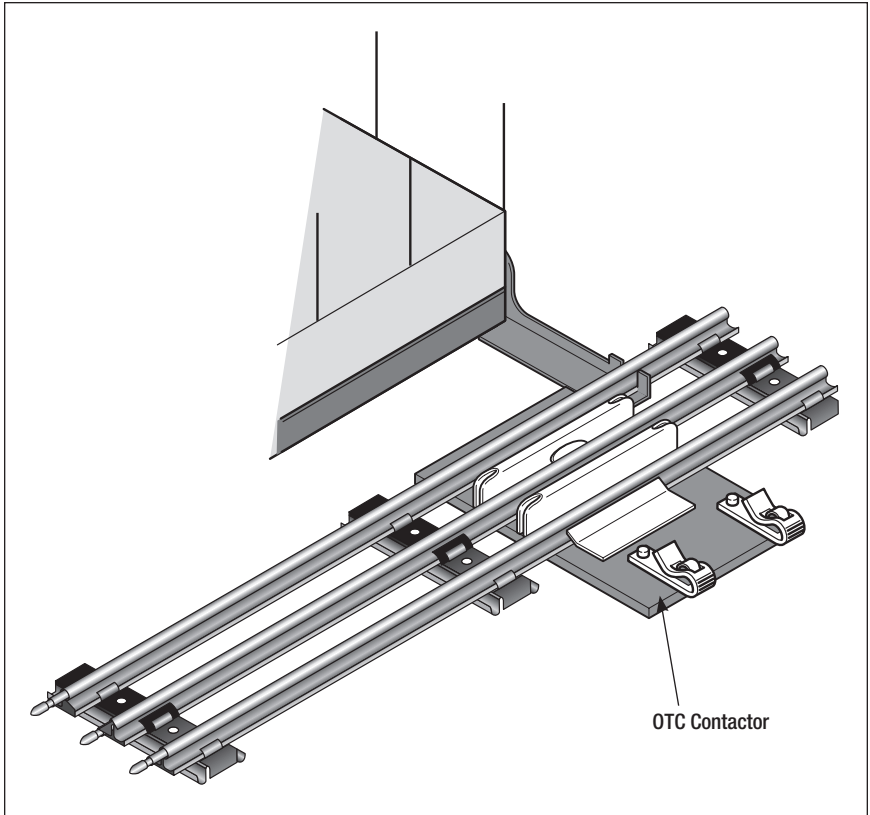

Figure 4. Installing the OTC Contactor
- Slide the OTC Contactor under the track, then snap it in place. As illustrated in Figure 4, the contactor should touch the locating arm.